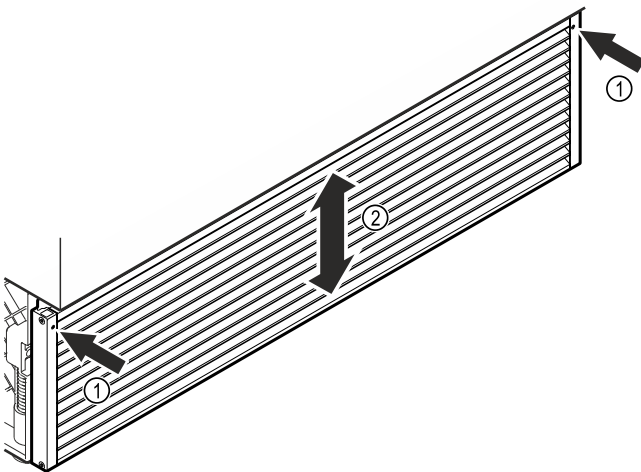

Fig. 27
- Loosen the threaded pins on the front of the ventilation grille. Fig. 27 (1)
- Adjust the ventilation grille at the desired height. Fig. 27 (2)